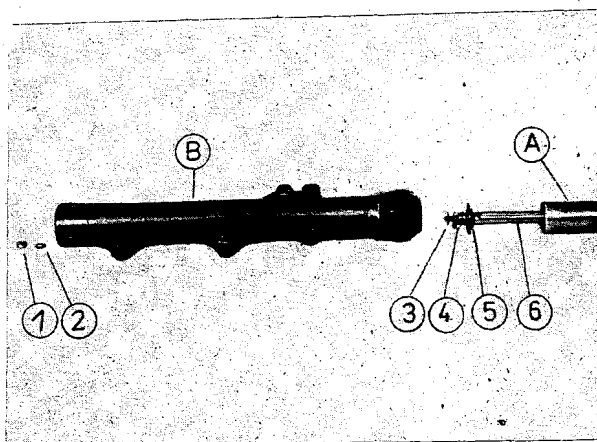

Fig. 107. Guide tube withdrawn from the sliding tube
- Using an L-handled socket wrench (WoF 10), loosen the fastening nut (1) for the supporting tube and remove the nut and the corrugated washer (2) (Fig. 107);
Clamp the guide tube at its upper end, with the protective tube pointing upward, in a vice between soft protective jaws. The round wood still in the guide tube now backs the supporting tube from below. Fit the cup for the final stop (5), the compression spring (4) 19 mm in diameter, and the sealing washer (3) (Fig. 107).
- Apply some damping liquid to the guide tube for the shaft seal ring and push the sliding tube from top over the guide tube and fit, at the same time, the threaded piece of the supporting tube into the drill-hole in the sliding tube. Fit the corrugated washer (7) and the fastening nut (8) (Fig. 107) and tighten the latter.
- Push the protective bellows or the protective cap over the guide tube and insert the collar (A) into the groove (B) of the sliding tube. Prior to this clean the groove (B) in the sliding tube. The vent hole in the protective bellows must point to the rear. Fasten the protective bellows by means of a clip at its upper end.